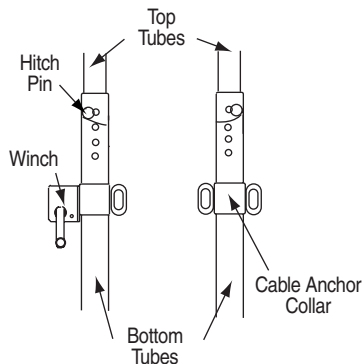

Figure 1
- ① Slide winch assembly onto one 3 1/2" O.D. bottom tube. Locate approximately 23" from end with holes, and tighten set screws with allen wrench (see Fig. 1).
- ② Slide cable anchor collar onto the other 3 1/2" O.D. bottom tube. Locate approximately 23" from end with holes, and tighten set screws with allen wrench (see Fig. 1).